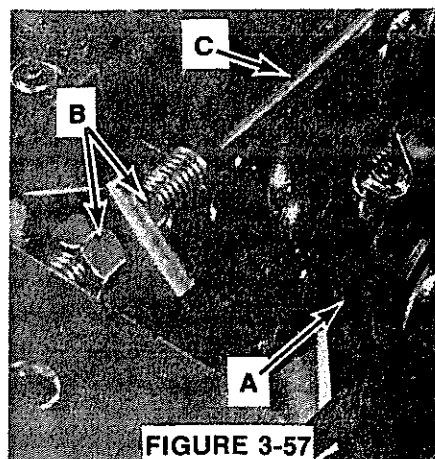

FIGURE 3-57
16. Block up rear wheels. Restart engine; press pedal forward, reverse, then back to Neutral. If wheels continue to creep forward when in Neutral, shorten adjusting rod (C) Figure 3-57, until wheels stop. Lengthen adjusting rod if wheels creep backwards.